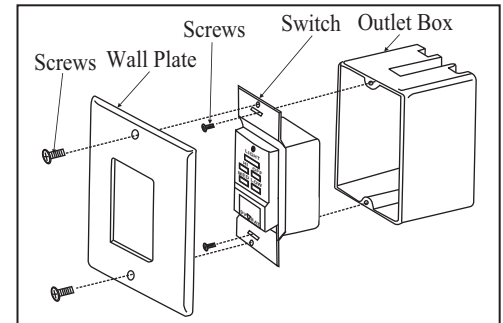

Figure 13
3. (Fig. 13) Carefully tuck the wire connections inside the junction box. Secure the wall transmitter with the two screws provided.